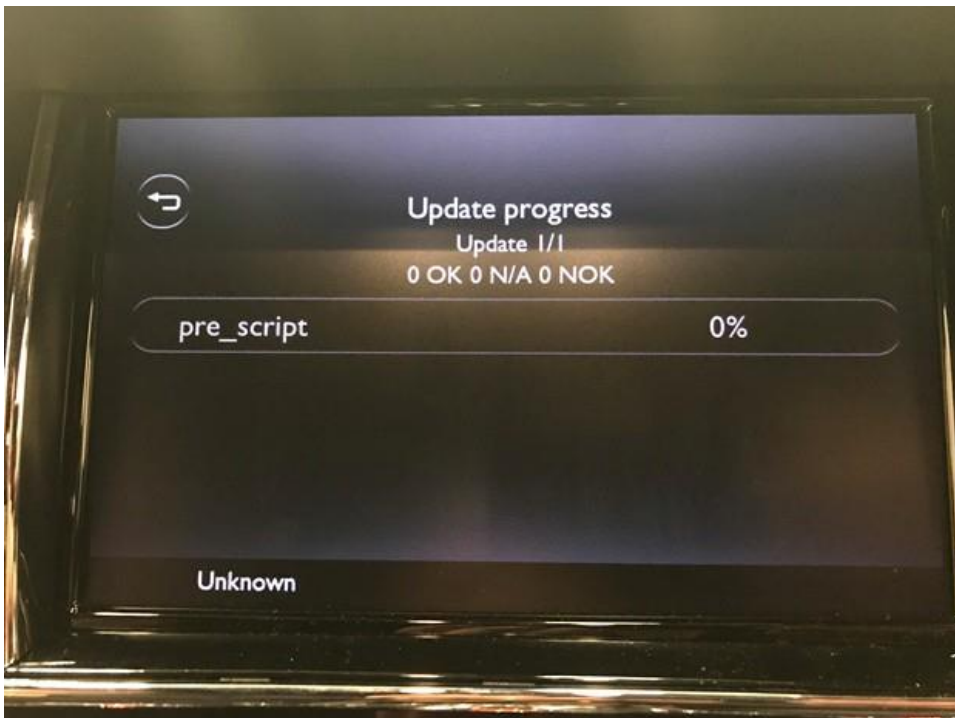

Figure 10
9. The update will now take place, the screen may go blank for short periods, various data will be displayed (Figure 10).